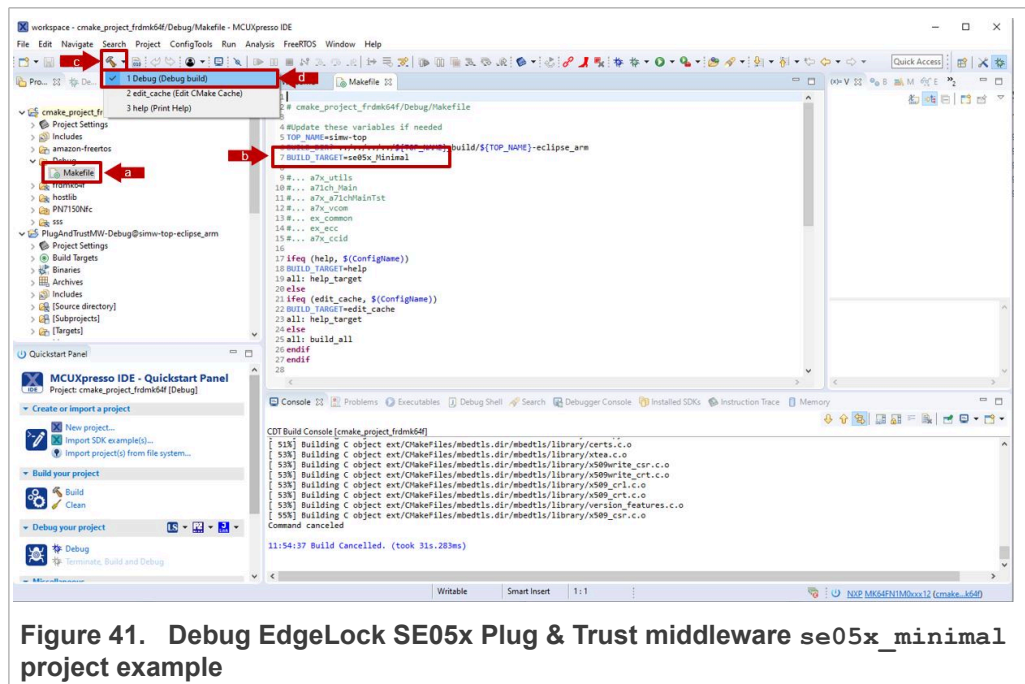

Figure 41. Debug EdgeLock SE05x Plug & Trust middleware `se05x_minimal` project example
3. Select the `se05x_Minimal` as the project to be executed. For that, follow the steps shown in Figure 41: